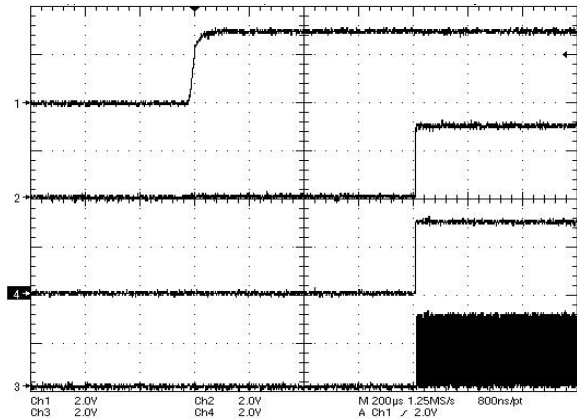

Figure 7. Activation Sequence, Ch1 : CRD_V_{CC} ,
3.0 V). Figure 7 shows the typical NCN4557 activation sequence.